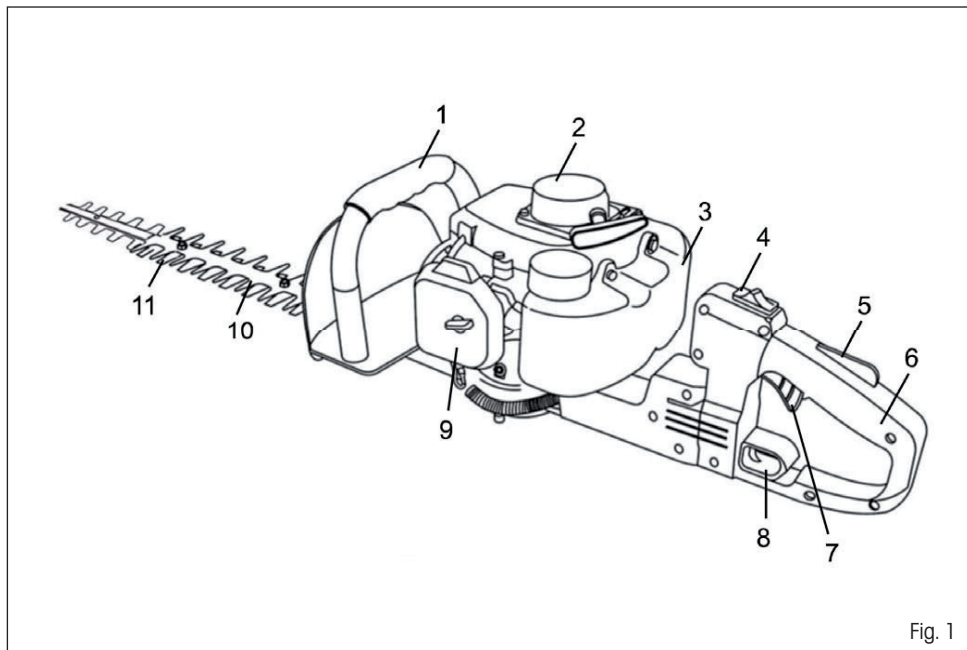

Fig. 1
DESCRIPTION OF THE POWER TOOL (SEE FIG. 1)
1. Set the engine switch (Fig. 1, point 4) to the off (OFF) position to ensure that the engine is turned off.